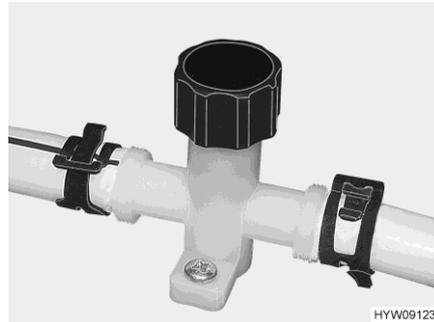
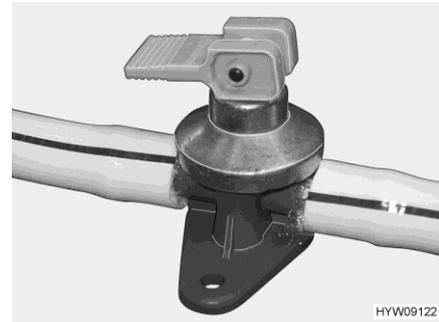

Fig. 160 Drain cock (water pipe)
Fig. 161 Drain cock (Alde boiler)
- Close the drain cocks. To do so, turn the cap (Fig. 160) in a clockwise direction and set the rocking lever (Fig. 161) in a horizontal position.
- Open the drain cocks. To do so, turn the cap (Fig. 160) in an anticlockwise direction and set the rocking lever (Fig. 161) in a vertical position.